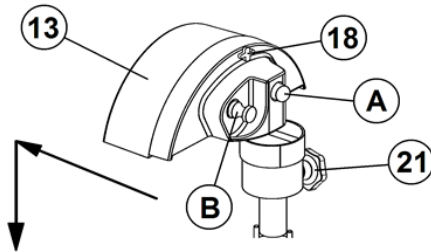

FIG 12. ADJUSTMENT SHARPENER
1.- Slide rods: you must lubricate the slicer with light oil at least every 100 hours or 3 days of service. The points to lubricate are upper and bottom sides of round (16) and square sliding rods.
2.- Knife: after certain period of use or if you notice the quality of the sliced meat is not as fine as the first time, you will need to re-sharpen the knife (2):
B. Loosen the sharpener lock knob (21) under the sharpening assembly, until it springs up (See Fig. 12).
C. Push the assembly towards the cutting blade edge, hold it in that position and press down until the stones are on each side of the knife (Aprox. 1/4" under the edge) then tighten the sharpener lock knob (21) again.
D. Turn on the machine and, push the rod "A", let the stone (19) grind the under side of the knife for a few seconds. This will sharpen the edge and create a slight burr on the top side of the edge. When you release the rod "A" it will return automatically.
F. Turn off the machine and wait until the Cutting Blade stops. Then loosen the sharpener lock knob (21), pull up the sharpener and reinstall in its stowed position. Tighten the sharpener lock knob again.